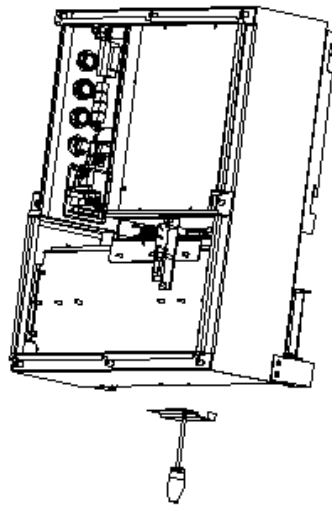

Figure 2.17 Installing positioner
Step 2: Install the position limiter on the bottom as shown in Figure 2.17.